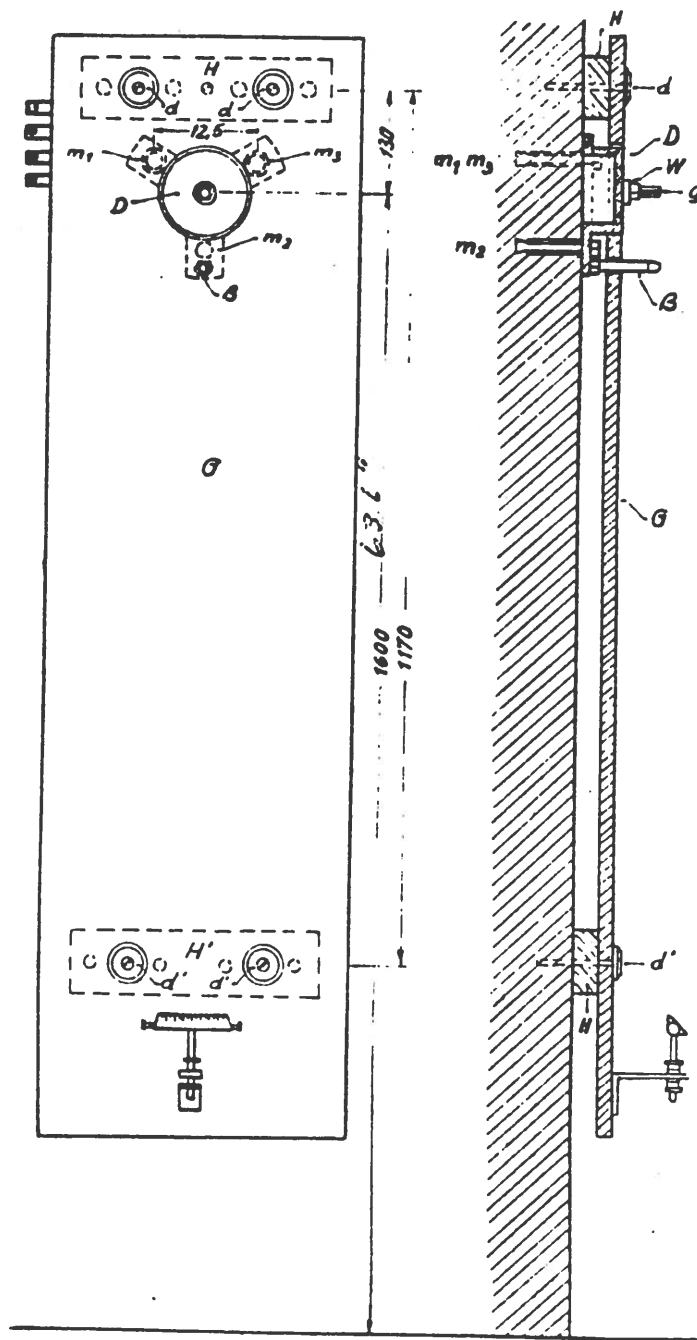

Fig. 1 M=1:10
At these clocks the clock-work as well as the clock-casing are fixed separately to the wall so that they do not touch each other at all. Therefore the vibrations which might appear in the clock-casing by opening the door, are not transferred to the clock-work. The clock-work is fixed to a cast-iron plate "D" (Fig. 1), which plate is bolted to the wall and the clock-work is screwed on two wooden boards "H" and "H1" which are nailed to the wall.
1. Fix the cotter bolts m^1 , m^2 and m^3 (Fig. 1) to the wall, distribute them in a triangle, with a distance of the three points of 12 1/2 cm and screw them as deep as possible into the wall so that the threaded pin hardly protrudes the on-screwed nuts. No cement will be required.
For this purpose first the wooden board "I" (Fig. 1) must be nailed directly above the wall plate "D" by means of the hardened steel pins, or fixed so that it does not touch the wall plate. The distance between the wall plate center and the wooden board center should be 12 cm, and a distance of 2 to 5 cm between the wooden board and the upper end of the wall plate will be sufficient.